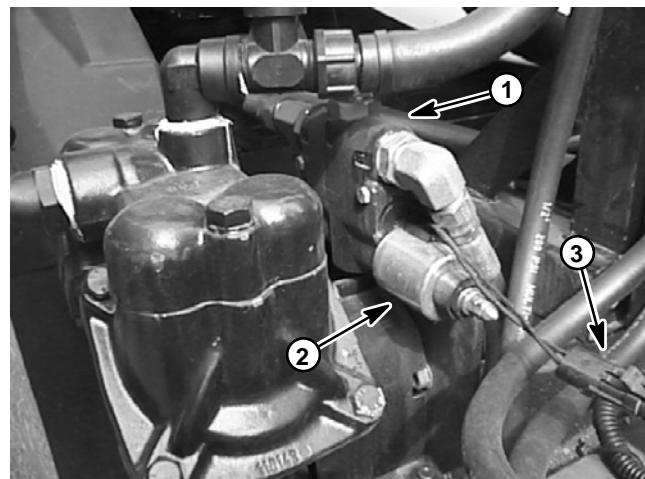
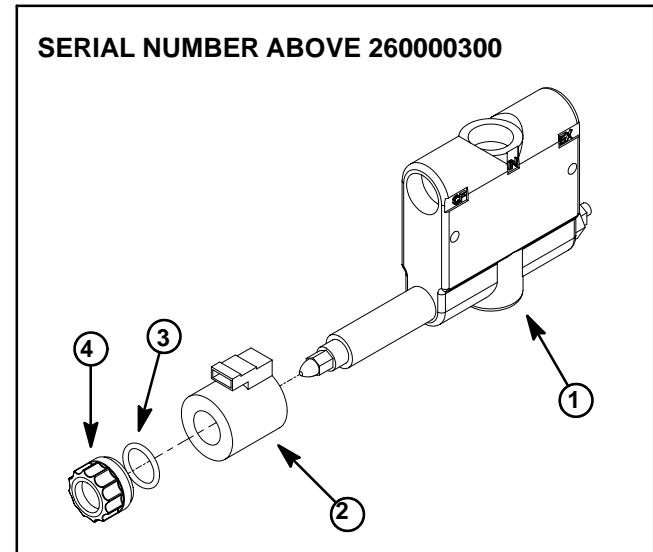

Figure 30
Figure 31
**NOTE:** The solenoid coil on machines with serial numbers below 260000300 is not available as a separate component (shown in Fig. 30). On machines with serial numbers above 260000300, the coil is available as a separate component (Fig. 31). Refer to your parts catalog for replacement part information.